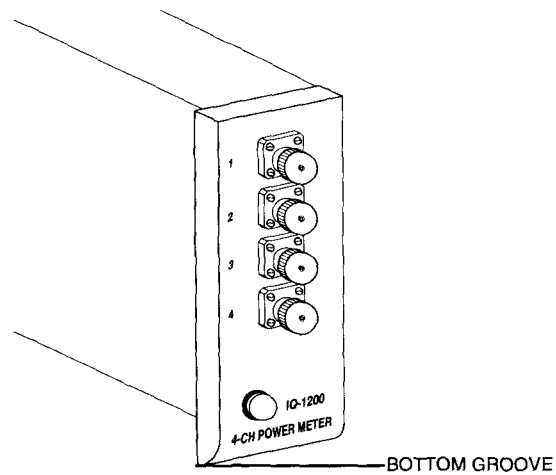

Figure 3-1. IQ-1200 Bottom Groove
2. Place fingers under the bottom groove (Figure 3-1) of the module front panel and firmly pull module outward.